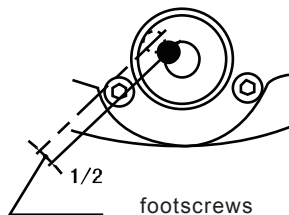

Fig.10
- (I)Turn footscrews, making the bubble halfway to centre.(Fig10)